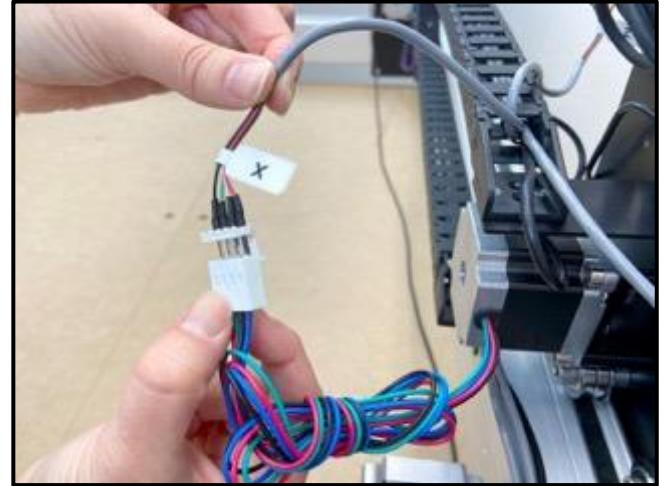

Figure 8-11
1. Connect the X-motor leads to the gray 4-pin extension cable labeled "X." See *Figure 8-11*.